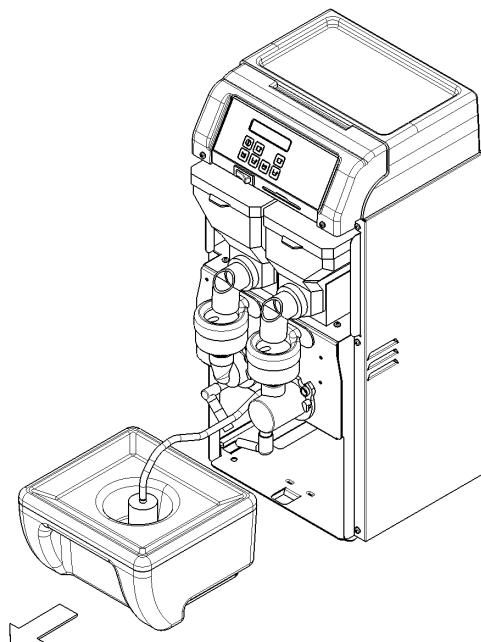

figure 2
- 3** Extract the water tank, located in the lower part of the dispenser and fill it with mineral or potable tap water. Reinstall the tank taking care that the water filter is properly located into its housing. (see figure 2)